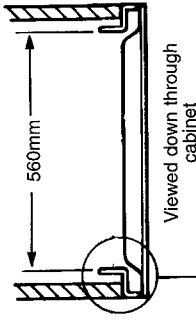

Fig. 2
- Finally the oven unit must be secured to the cabinet. Position the oven side trims equally about the cabinet sides. This should give an overlap of approx. 1.5mm per side (see Fig. 2). Secure the oven unit to the cabinet, through the side trims, by means of the four screws provided, two each side trim.